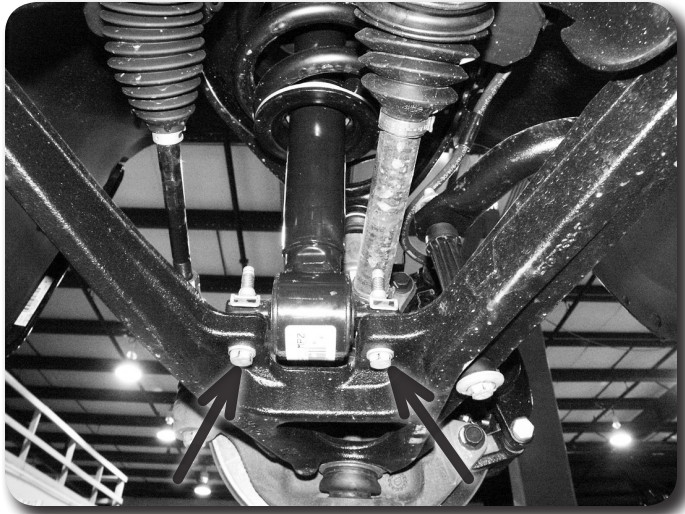

Figure 8
16. Support the lower control arm with a jack. Remove the lower strut mount bolts **Figure 8**. Save bolts.